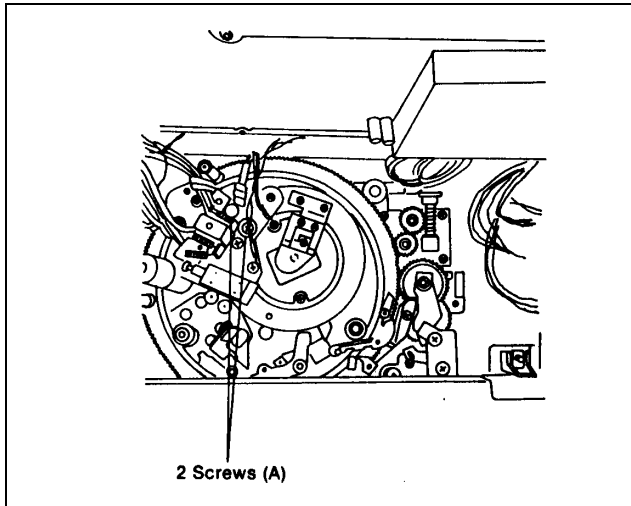

Figure 7-25-1 Cleaner Roller Unit Removal
2. Unscrew 2 screws (A) and remove cleaner unit as shown in figure 7-25-1.